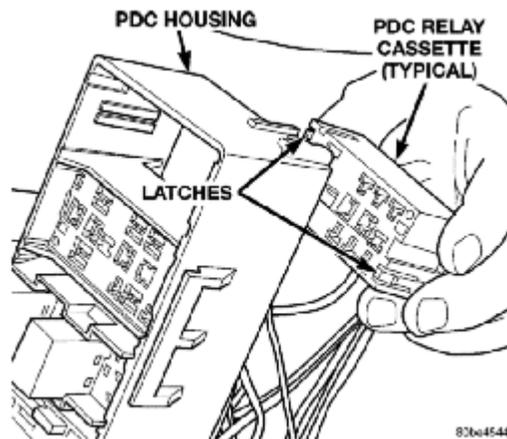

Fig. 9 PDC Relay Cassette Remove/Install
(3) Gently and evenly press the relay cassette down through the PDC housing.
(4) From the bottom of the PDC housing, remove the relay cassette from the PDC (Fig. 9).